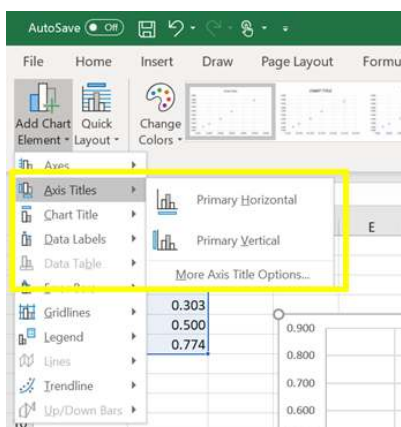

Figure 6
b) To label the axes of your graph, click on Axis Titles > select Primary Horizontal Axis Title and > Primary Vertical Axis Title (Figure 6).